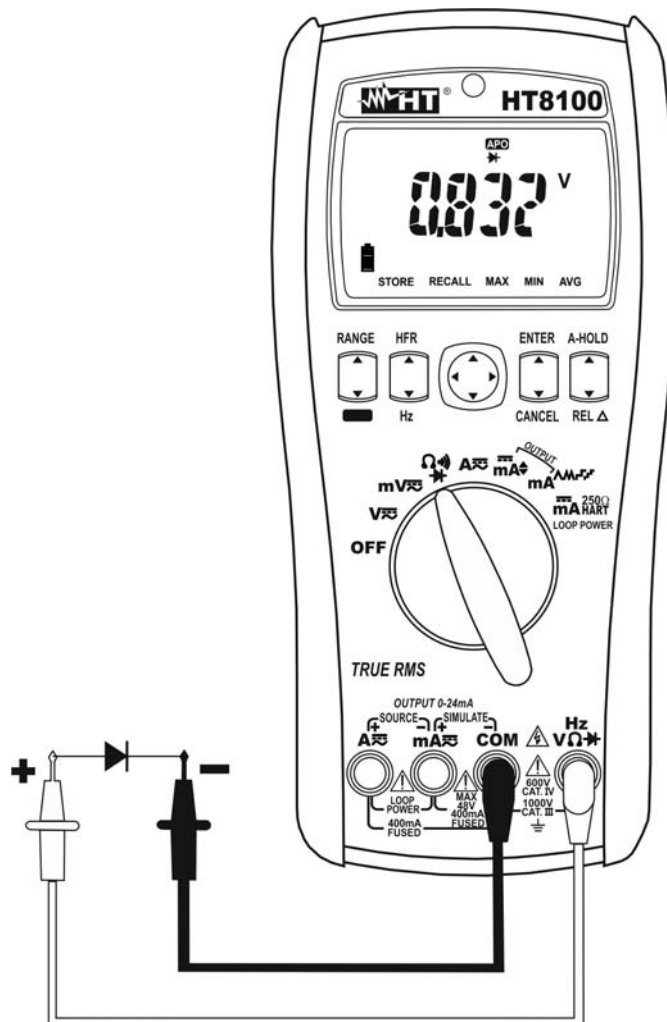

Fig. 7: Use of the instrument for diode test
4. Position the leads at the ends of the diode to be tested, respecting the indicated polarity (see Fig. 7). The value of directly polarized threshold voltage is shown on the display. For a good P-N junction, the instrument must show a value between 0.4 and 0.9V. If threshold value is equal to 0mV, the P-N junction of the diode is short-circuited.
5. If the instrument shows the message “OL”, the terminals of the diode are reversed with respect to the indication given in Fig. 7 otherwise, the P-N junction of the diode is damaged